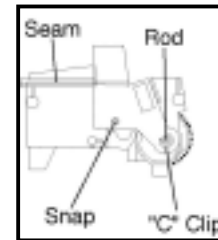

Figure 1
1. Remove "C" Clip from left side of drum axle (Fig. 1).
5. Unfasten two snap clips from other side (Fig. 1).
9. Use a utility knife to cut along seam and separate waste hopper (Fig. 1 & 2).